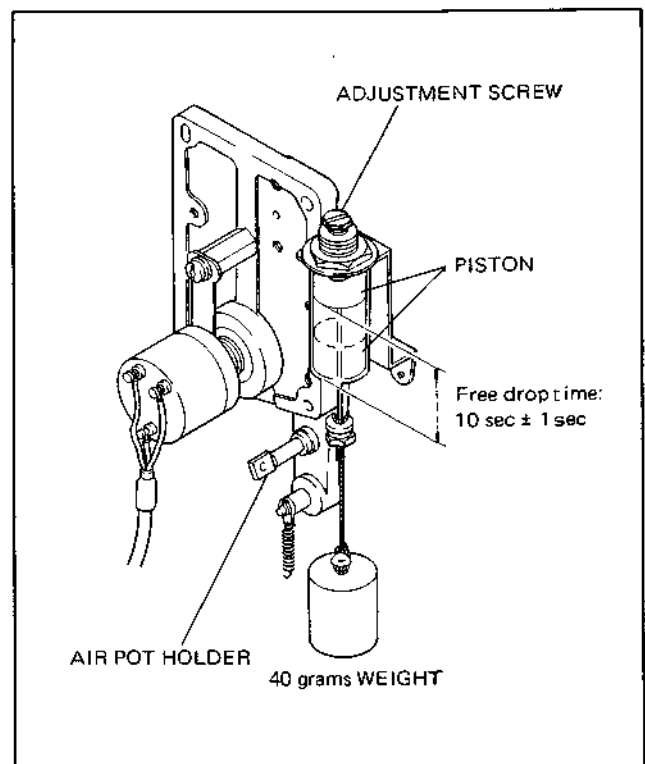

Fig. 3-44. Damping Speed Adjustment
5. Apply a 40 grams weight as shown in Fig. 3-44 to the tip of the connection rod, push the piston against the end of the cylinder, and release it quietly. Confirm that the time required for free dropping of the cylinder over the distance shown in the figure is 10 sec \pm 1 sec. If necessary, adjust with the adjustment screw at the end of the cylinder.